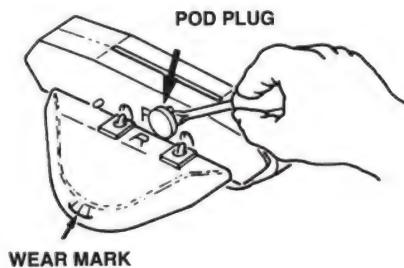

Figure 9
1. Check the condition of the "shoes, wings and flaps" periodically. The shoes and wings have wear indicators on their sides and should be checked occasionally to determine if they need replacing. The shoe wear indicator is a line on the side of the shoe that appears as a difference in texture. When this texture difference is no longer visible at the bottom of the shoe when viewed from either side, the shoes must be changed (*see Figure 8*). Also on the side, the wing wear indicator is a horizontal line which has three (3) vertical lines above it. When you can no longer see the horizontal line, the wings must be changed (*see Figure 9*). The Hayward **Navigator Tune-Up Kit** is available from your dealer. Shoes, wings and flaps may also be purchased separately.
- a) Using a screwdriver, remove the plugs from both pods (see Figure 9).